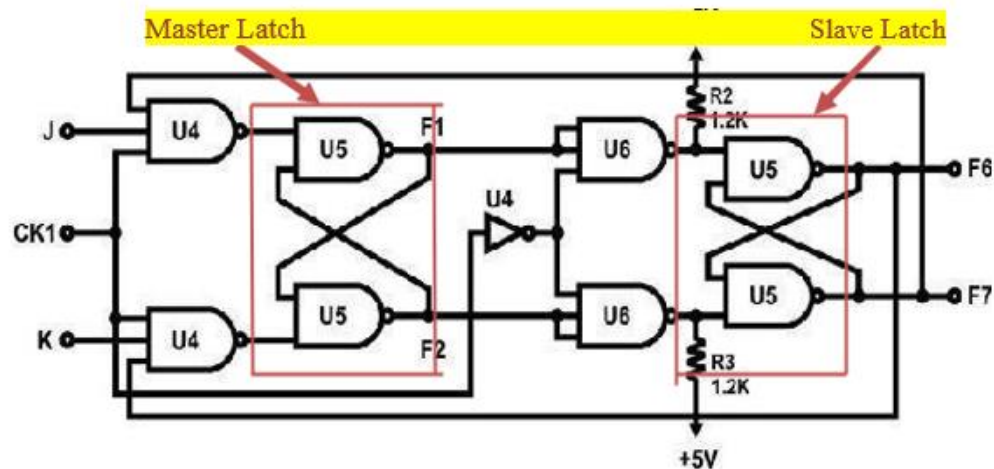

Figure 5.14: JK Flip-Flop.
1. Use the KL-33008 module to construct the circuit shown in Figure 5.14.